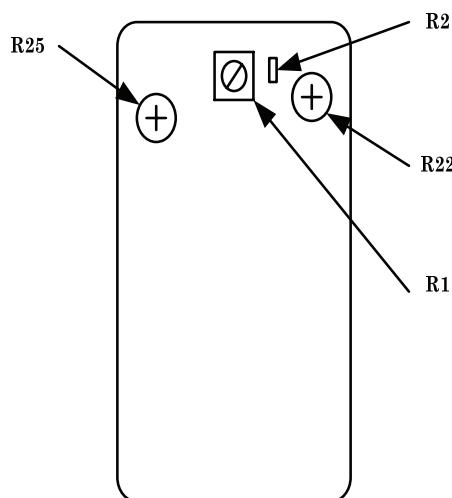

Figure 5. Simpson, model 270-4.
| Ac volts range | Indication (V) | Initial output (V) | Frequency (Hz) | err indication $\pm (%)$ | Adjustments (fig. 5) (R) R25 |
| Dc current range | Indication (A) | Initial output (A) | err indication \pm (%) | Adjustments (fig. 5) (R) |